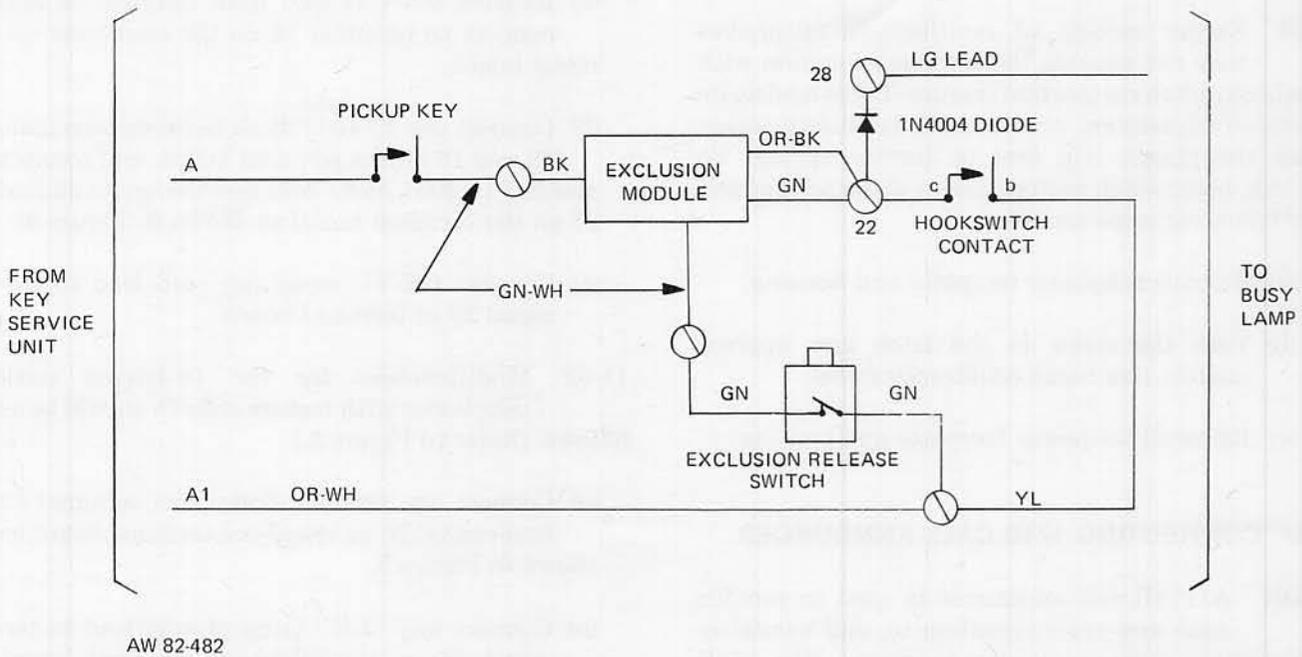

Figure 5: Busy Lamp Connections For 10-Button Telephones with Feature Code 76
**11.02** Modifications for the 10-button desk telephones with feature code 76 should be as follows: (Refer to Figure 5.)
- (a) Connect one 1N4004 diode from terminal 22 to terminal 28 on telephone terminal board as shown in Figure 5.